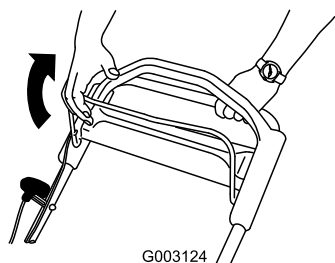

Figure 19
2. Pull the blade control bar to the handle (Figure 19).